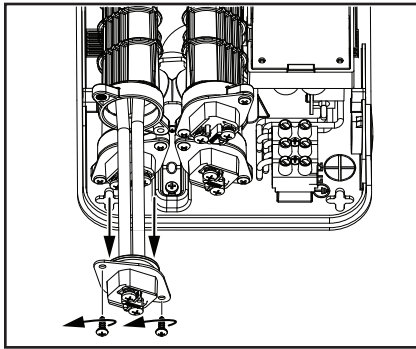

Figure 13 - Removing the element(s).
- 3 With the element wires out of the way, use a Phillips screwdriver to remove the two mounting screws securing the element in the chamber. Place the tip of a flat head screwdriver between the element mounting bracket and chamber housing to gently pry the element away from the chamber. Pull the element down and out of the chamber. Use a towel to clean up any water that might spill from the chamber. See Figure 13.